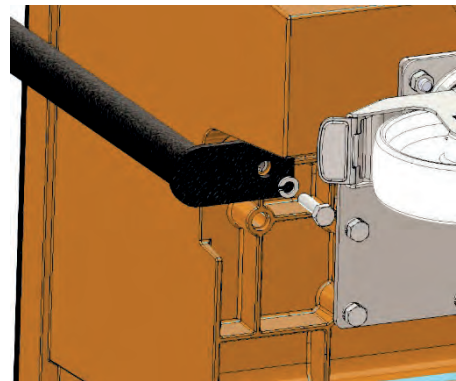

Fig. 4.1.2
- Secure the handle using the screws and washers provided (Fig. 4.1.2).